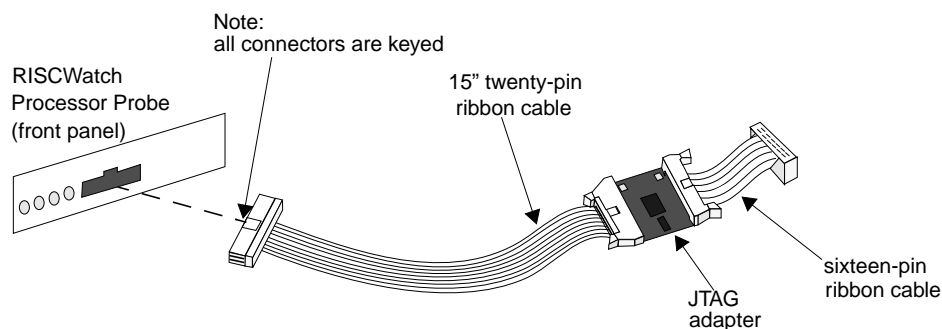

Figure 2-1. Typical JTAG Adapter Assembly
4. If your JTAG adapter assembly looks like the one shown in Figure 2-1, you have a typical JTAG adapter assembly. To assemble the adapter and cables, perform the following steps: